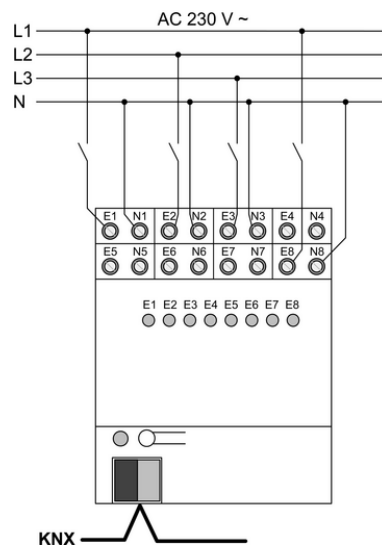

Figure 3: Connection example for 230 V binary inputs
- Connect device as shown in the connection example (Figure 3). Connect reference potential **N** separately for each input.